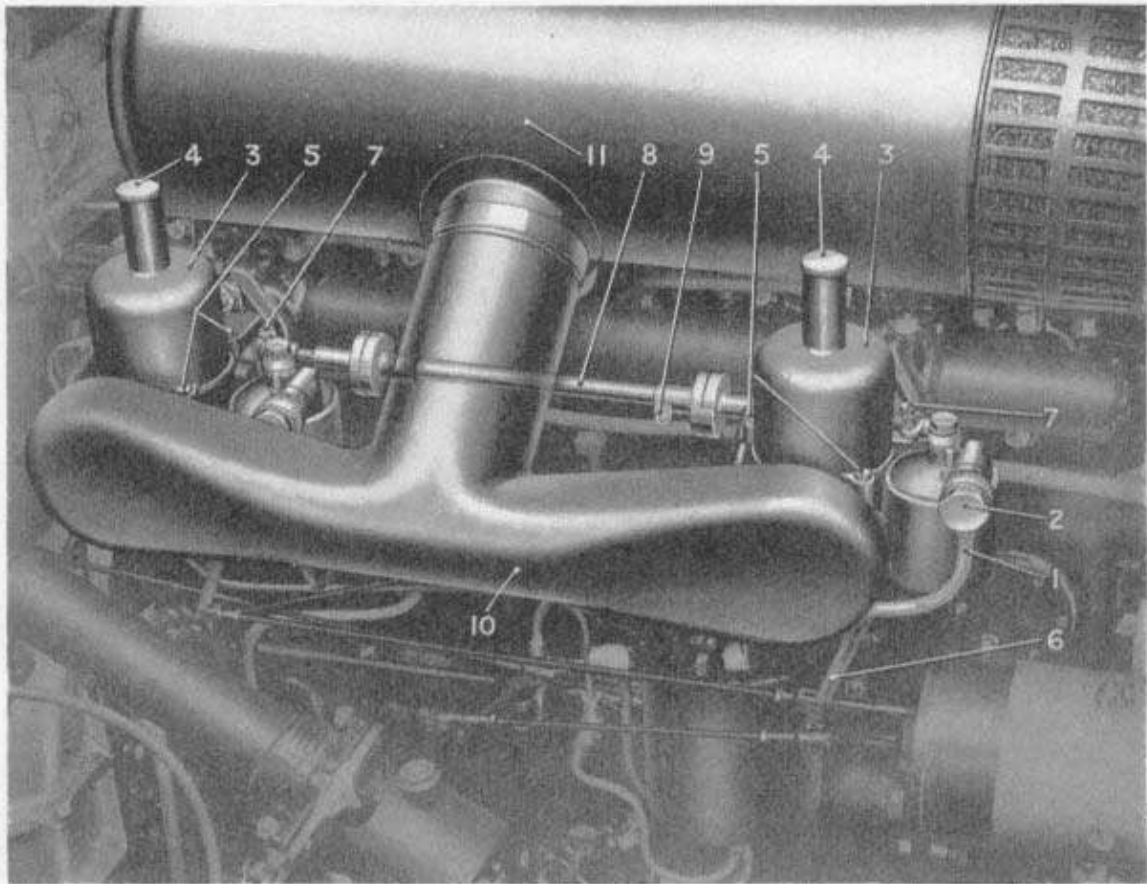
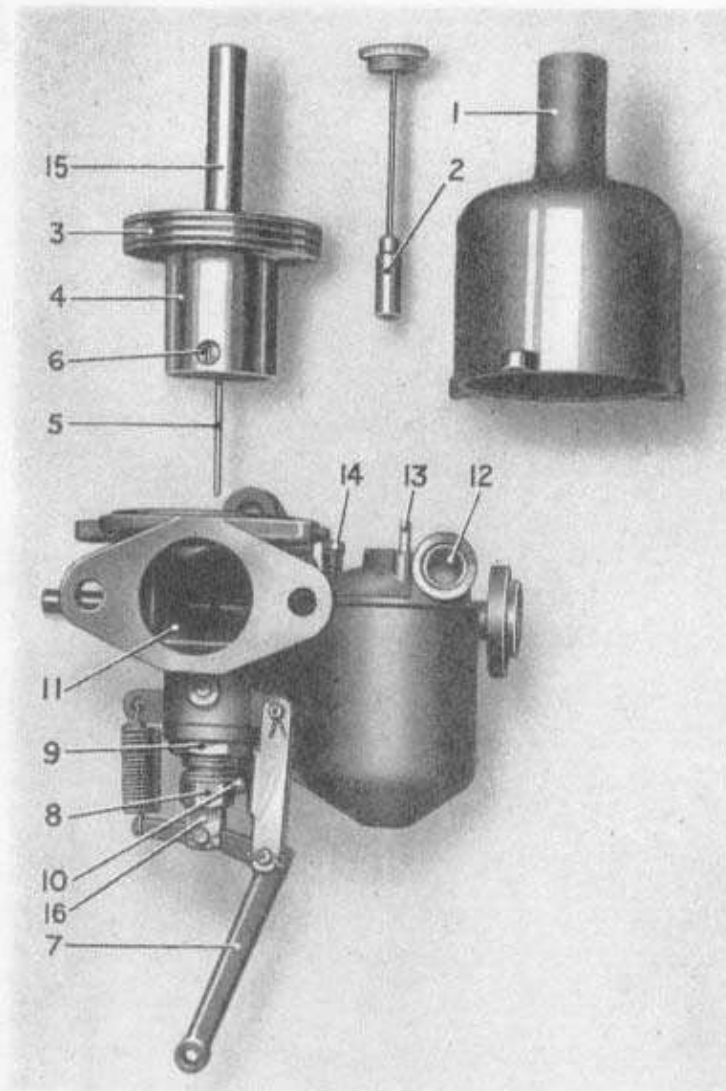

Fig. 13. CARBURETTERS IN POSITION ON ENGINE.
Fig. 14.—CARBURETTER—EXPLODED VIEW.
In addition a small gauze strainer, shown at (12, Fig. 14), is arranged on each carburetter. These should be removed and cleaned every 20,000 miles, as directed on page 33.
Removal is effected by unscrewing the two union nuts (2, Fig. 13). The strainer gauzes can then be removed and cleaned in petrol.
Two carburetters of the S.U. controllable jet type are fitted as shown in Figs. 13 and 14, one being shown in section to illustrate the principal parts.
from cold. The damper consists of a small cylindrical brass plunger (2, Fig. 14), attached by a thin steel rod to the oil cap nut (4, Fig. 13). Inside the plunger is a one-way ball valve which seats in an upward direction. The plunger is a free fit in the hollow guide rod of the automatic air valve piston, the chamber being filled with a thin oil. The action of the device being as follows:—
Every month, as directed on page 30, the oil reservoir cap nut (4) (Fig. 13), should be unscrewed and the plunger withdrawn, *great care being taken to avoid damage to the plunger rod by bending*, the reservoir should be topped up, if required, with the recommended oil, so as to maintain the level of the oil to the
If it is suspected that the automatic air valve is not working correctly, the air intake (10, Fig. 13), should be removed, and a check made by lifting the piston with the fingers, when it should be noted that the piston falls quite freely on to its seat when released.
If any sticking or sluggishness is apparent, it will be necessary to dismantle the air valve assembly; first remove the hydraulic piston damper, next remove the three screws (5, Fig. 13), and lift off the cylinder (3). The piston valve can be then lifted out, *the utmost care being taken not to bend or damage its depending needle valve* (5, Fig. 14), *or to bruise the valve in any way*. The valve, cylinder and guide, should be carefully wiped with a piece of clean cloth dipped in petrol, and the piston rod ONLY lubricated with a few drops of thin oil.
The suction disc (3, Fig. 14), does not touch the walls of the cylinder, there being a small clearance, and it is centralised solely by the piston rod working in the guide. Therefore, any sluggishness in movement is probably due to dirt in the guide, or on the cylinder walls.
The needle valve is secured in position by means of a grub screw, (6, Fig. 14), and if it should be necessary to remove this, as, for instance, when replacing an accidently damaged needle, it must be particularly noticed that the location of the valve is determined by a shoulder. The valve should be pushed into the piston until this shoulder is just flush with the lower face and the grub screw tightened.
The quantity of mixture for slow running is determined by means of an adjustable screw stop on the front carburetter (7, Fig. 13), which limits the closing movement of both throttles. This is so adjusted that the engine will idle slowly but reliably when the hand throttle lever on the steering wheel is set right to the bottom of its range and the accelerator pedal released. The stop on the rear carburetter is normally inoperative, and is only used to help initial adjustment.
Re-adjustment of the jets, and of the control shaft between the carburetters, should not normally be required. If, however, the whole adjustment has been disturbed, first adjust the throttles so that both carburetters function equally at "fast idle". An indication that both pistons have risen can be felt by depressing the top of the piston guide rod (15, Fig. 14) by means of a small rod inserted through the top of the cylinder (3, Fig. 13), after removal of the oil cap nut and hydraulic piston damper (4, Fig. 13). The jets should then be adjusted subsequent to this operation, as described below.
The mixture control lever on the steering wheel operates to raise or lower the actual fuel orifice or jet, through the medium of the levers (6, Fig. 13). Raising the jet causes the taper needle to sink further into the orifice, so weakening the mixture. Conversely, lowering the jet enriches the mixture. This control is only intended to provide a means of strengthening the mixture for starting from cold, for normal running the jets must be in their highest position, the back of both the jaws (16, Fig. 14), abutting against the adjustable stops (8, Fig. 14), simultaneously.
With the engine warm, the control rods should be disconnected from the ends of the levers (6, Fig. 13), and the latter pushed up until the jaws (16, Fig. 14), are against the stops (8, Fig. 14). Then, with the engine running, the stops should be manipulated until the engine runs regularly. Any sign of "hunting" is due to the mixture being too rich, and one or both of the stops must be screwed further in and the lever pushed up so that the jaw is against it.
If it is required to dismantle the float chambers, it will be most convenient to remove them bodily—after removing the fuel pipes—by unscrewing the hexagon plugs (10, Fig. 14), which secure each to its carburetter body.
The large hexagon (9, Fig. 14), should not be disturbed, as the refitting of this requires special tools to ensure that the jet is accurately centralised relative to the taper needle valve.